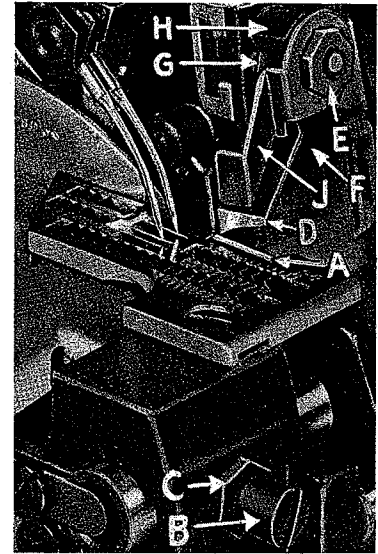

Fig. 12
Replace lower knife holder assembly. Lower knife (A, Fig. 12) should be set with cutting edge flush with throat plate surface. Adjustments are made with hexagonal head screw which holds lower knife. Lower knife is spring pressed against upper knife, so no lateral adjustment is necessary when width of trim is changed.
Replace upper knife assembly. Clamp upper knife (D, Fig. 12) in position, setting nut (E) to hold clamp (F) in its most clockwise position against upper knife. Upper knife chain guard (J) should be positioned so that the guarding section is approximately $1/64$ inch behind the cutting edge and in contact with the top surface of the upper knife.